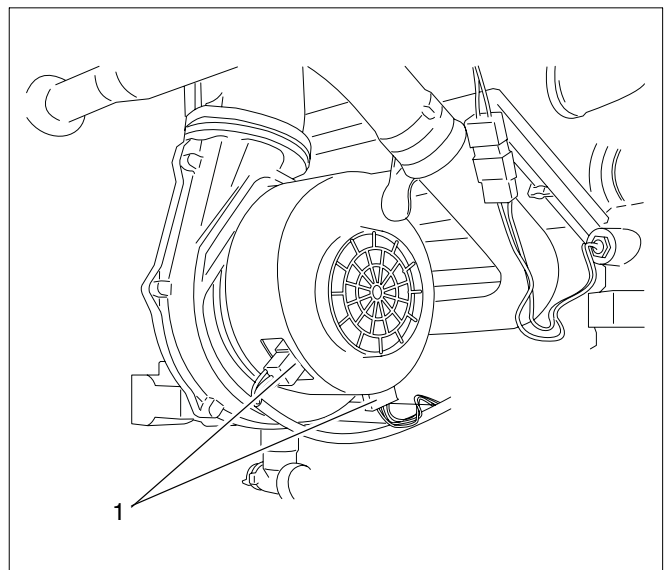

Fig. 117 Disconnecting the cable plug from the fan unit
- Remove both cable plugs from the fan unit (see fig. 117, pos. 1).